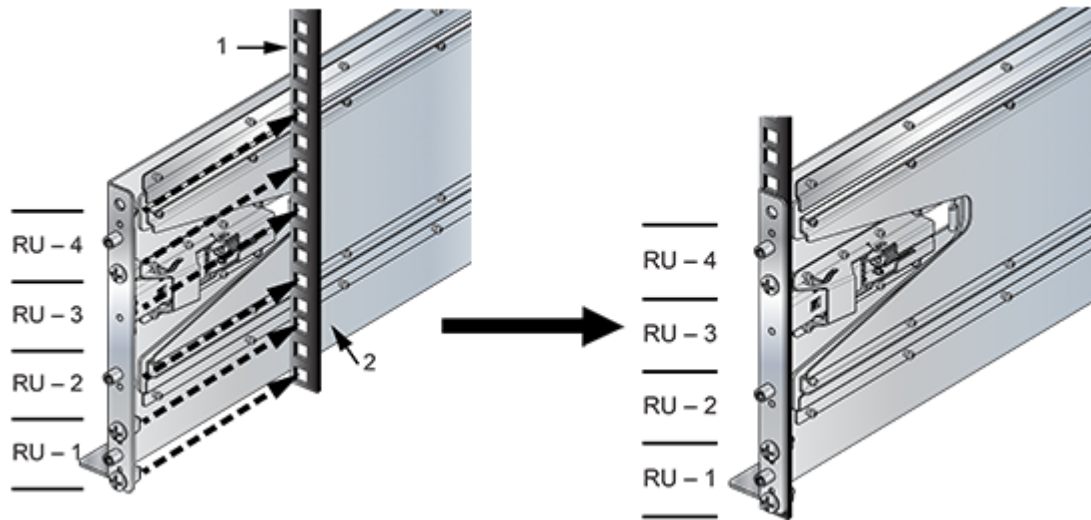

Figure 10: Attaching the Right Shelf
2. Attach the front side of the shelf to its corresponding front rack post by inserting the shelf-side rack plugs and guide pins into post slots (Figure 10: Attaching the Right Shelf).